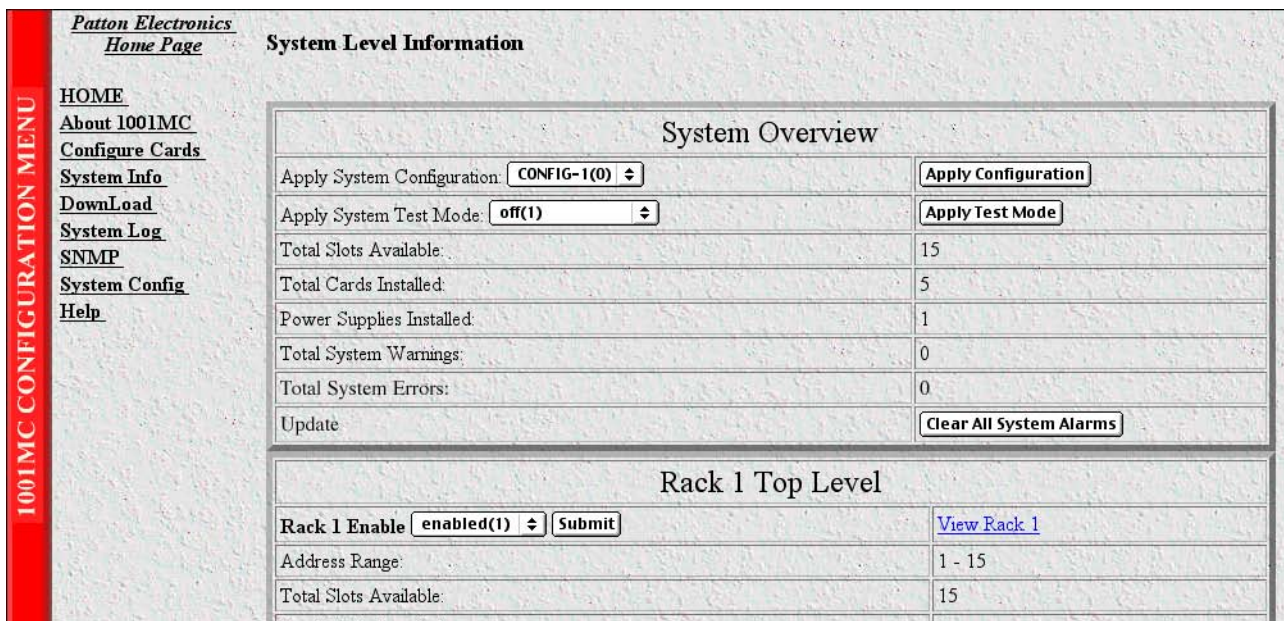
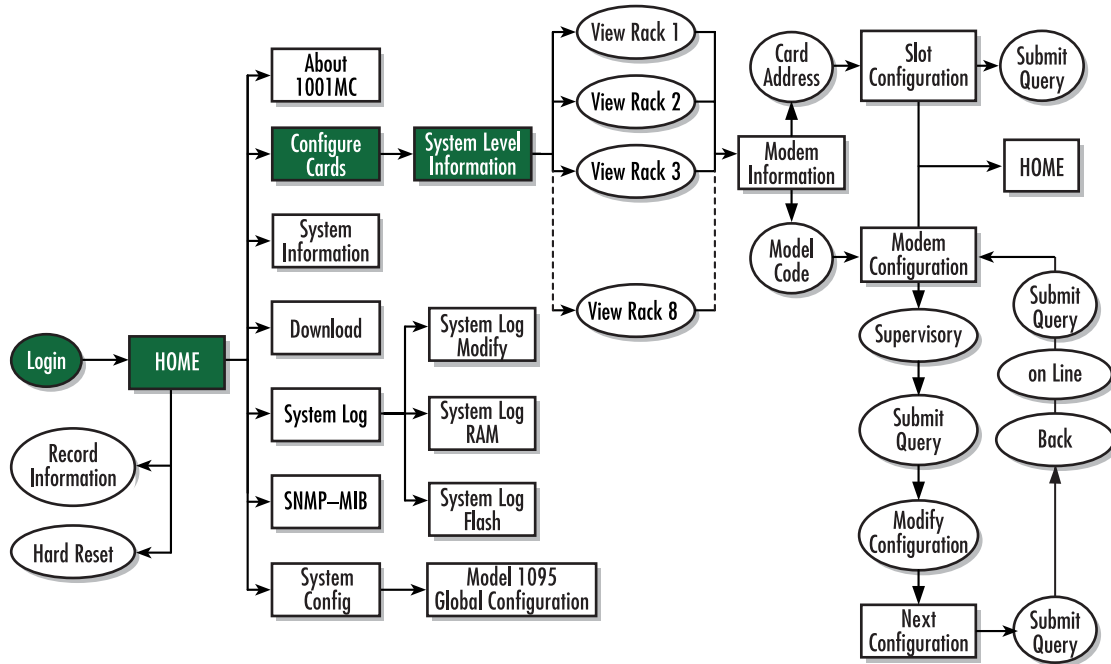

Figure 63. System Level Information page
Figure 64. Web page navigation to System Level Information page
1. Starting from the HOME page, click on the *Configure Cards* link to display the System Level Information page see figure 63. Figure 64 shows the web page navigation required to get to this area of the system.
2. Use the *Apply System Configuration* pop-up menu (see figure 63) to select the template you want to apply.
1. Starting from the HOME page, click on the *Configure Cards* link to display the System Level Information page see figure 65. Figure 64 on page 127 shows the web page navigation required to get to this area of the system.